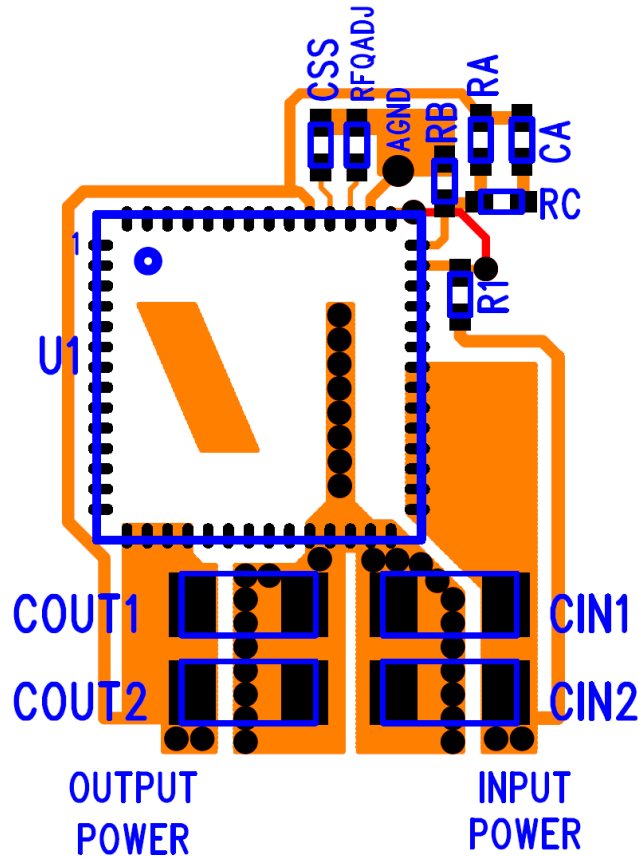

Figure 8: Top Layout with Critical Components Only (Top View)
**Recommendation 6:** AVIN is the power supply for the internal small-signal control circuits. It should be connected to the input voltage at a quiet point. In Figure 8 this connection is made at the input capacitor furthest from the PVIN pin and on the input source side. Avoid connecting AVIN near the PVIN pin even though it is the same node as the input ripple is higher there.
**Recommendation 8:** Keep RA, CA, RC and RB close to the VFB pin (see Figure 8). The VFB pin is a high-impedance, sensitive node. Keep the trace to this pin as short as possible. Whenever possible, connect RB directly to the AGND pin instead of going through the GND plane. The AGND should connect to the PGND at a single point from the AGND pin to the PGND plane on the 2nd layer.